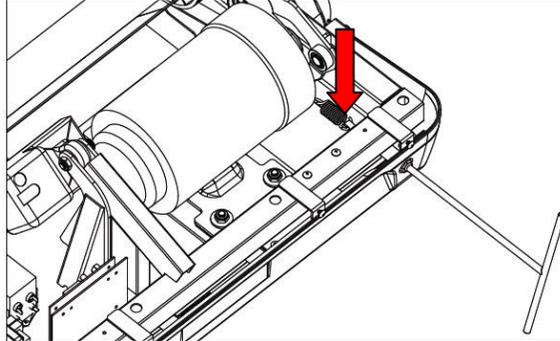

Figure 4.3.3
- 4) As shown in Figure 4.3.3, use tool to release the belt (T-sleeve) and remove the belt from the motor.